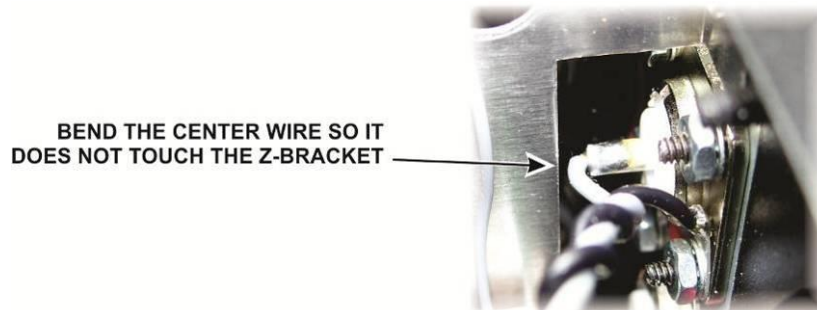

Figure 40. Checking RF Output Connector Center Pin Wire Clearance.
□ Look through the top of the KPA500 and check the clearance of gray wire leading to the center pin of the RF output connector and the Z-bracket. If necessary, bend the wire at the pin as needed for clearance as shown in Figure 40. A flat blade screwdriver is an excellent tool to bend the wire.